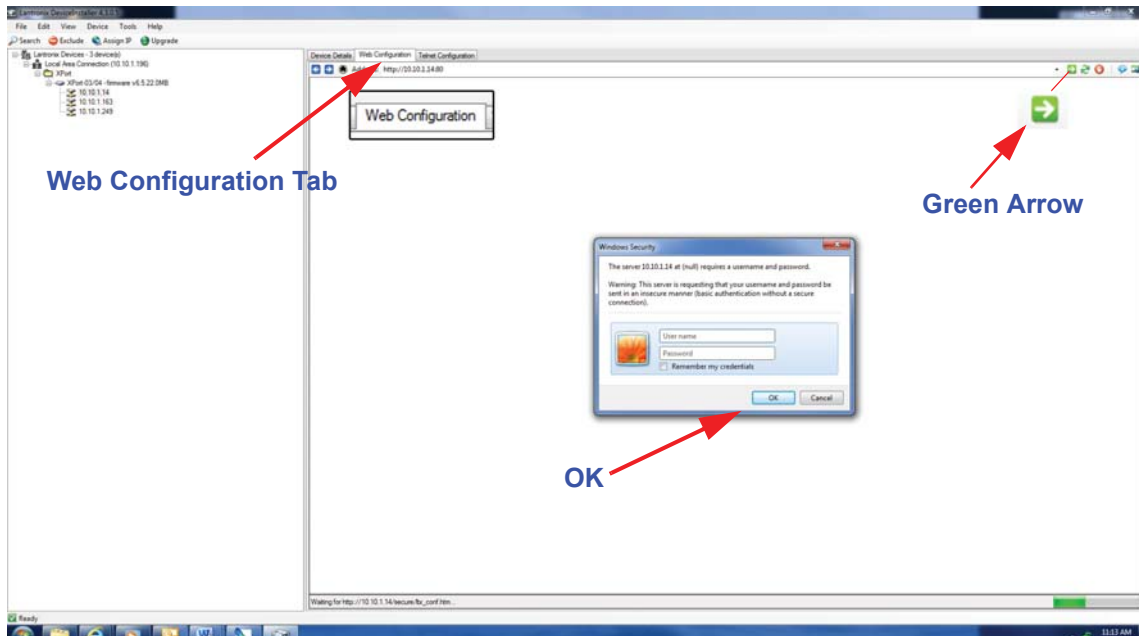

Figure 4-6 Web Configuration Tab
2. Select and double-click the XPort for the NC30+ to open the Device Details tab. See Figure 4-6.